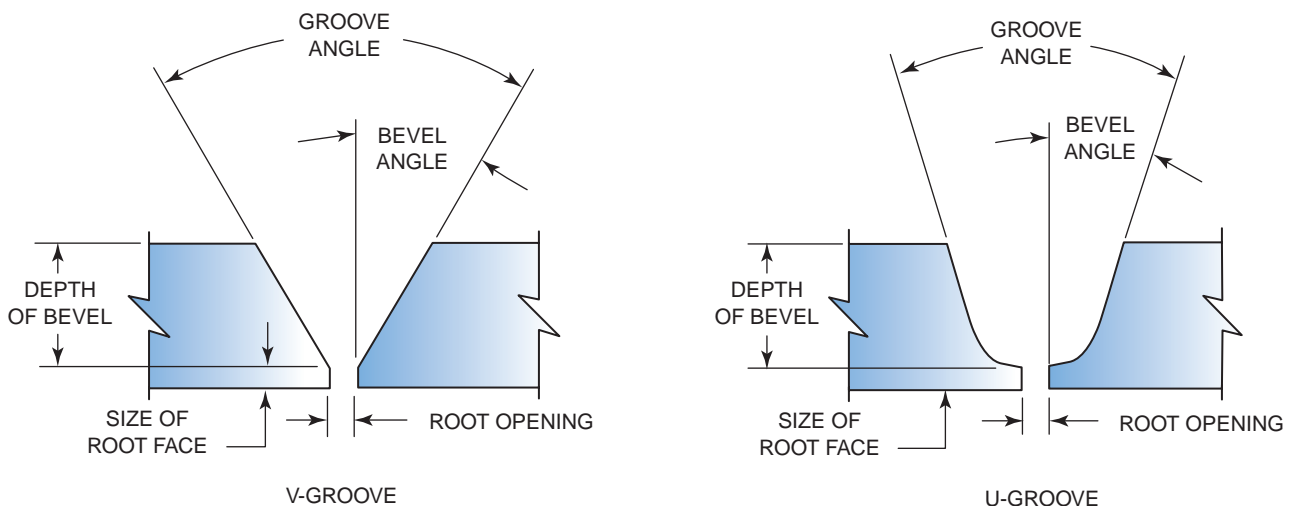

FIGURE 17-4 Groove terminology.
- **Joint dimensions**—The depth and/or angle of the preparation and the joint spacing can be changed to make the weld, Figure 17-4.